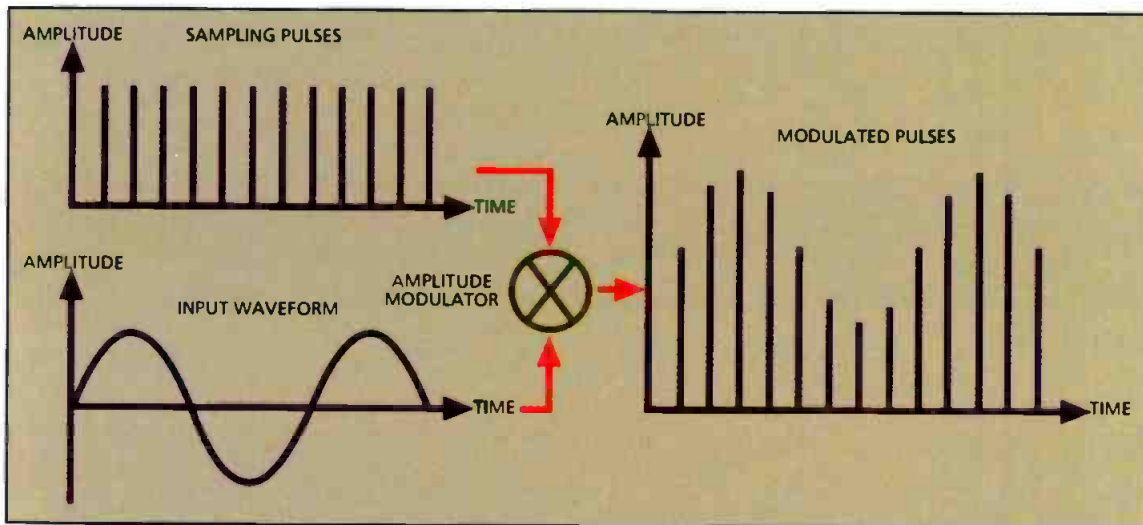

Figure 1: The sampling process results in pulse amplitude modulation (PAM).
Figure 1 shows the sampling mechanism of a sine wave. The amplitude of the sampled sine wave is measured at constant time intervals (T). The amplitude of the samples is modulated by the sampled frequency resulting in a process of pulse amplitude modulation (PAM).
topology is the Fibre Channel arbitrated loop (FC-AL). (See Figure 1.) FC-AL has several advantages. As with point-to-point, it is low cost, and external hardware is not required. In small configurations it is simple. For that reason, it is easy to troubleshoot. It is also expandable, with up to 126 devices per loop. Single-loop FC-AL does have some problems though. First, it is prone to failure. Because it is a single loop, a break anywhere in this loop crashes the entire network. Second, in a single-loop
Figure 1. Fibre Channel Arbitrated Loop (FC-AL) systems can employ a single- (shown) or double-loop. Single-loop systems are low-cost and easy to troubleshoot. Dual-loop configurations are more complex, but also more robust.